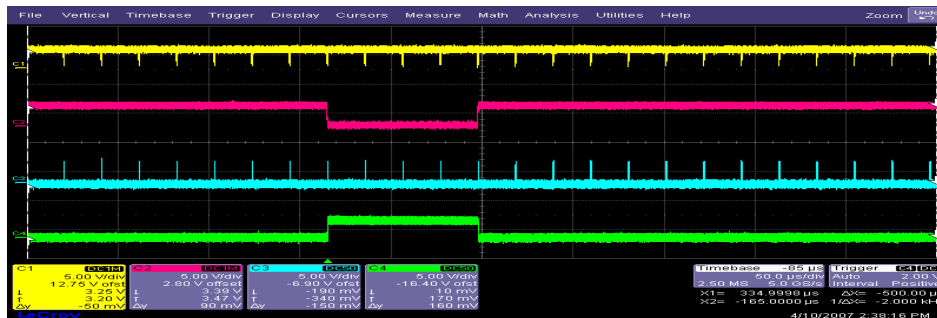

FIGURE 5. ACTIVE LOW POLARITY EXAMPLE
3. SS4 and SS3 switches should be set in HIGH position for the active low polarities seen in Figure 5: